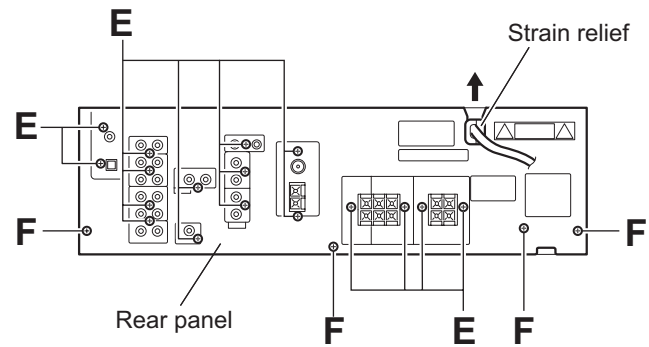

Fig.4
2.3 Removing the rear panel (See Fig.4)